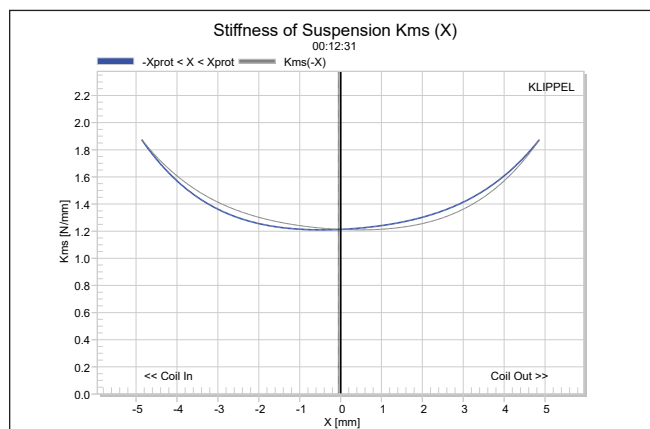

Figure 10: Klippel analyzer Mechanical Stiffness of Suspension Kms(X) curve for the MISCO MS-10W
Figure 10 gives the Kms(X) curve. The Kms(X) curve is also very symmetrical, again with an extremely small amount of offset. The Akms number for this driver is a very small -0.60%, indicating a well-behaved compliance system.